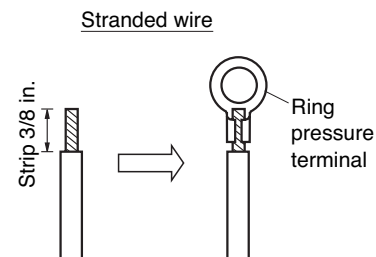

Fig. 5-1
- (1) Cut the wire end with a wire cutter or wire-cutting pliers, then strip the insulation to expose the stranded wiring about 3/8 in. (Fig. 5-1)
- (2) Using a Phillips head screwdriver, remove the terminal screw(s) on the terminal plate.
- (3) Using a ring connector fastener or pliers, securely clamp each stripped wire end with a ring pressure terminal. (Fig. 5-1)